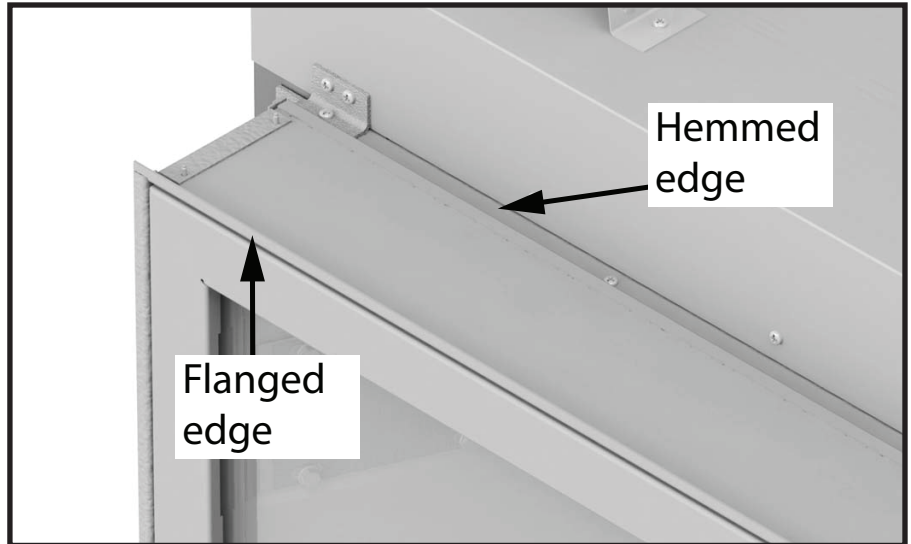

Figure 18: Adjustable lintel.
1. The adjustable lintel assembly has two orientations for desired finishing. A flanged edge and a hemmed edge. The lintel comes factory installed with the flange edge out (Figure 18). If the desired edge is different from the factory setting, use the following steps to change it.